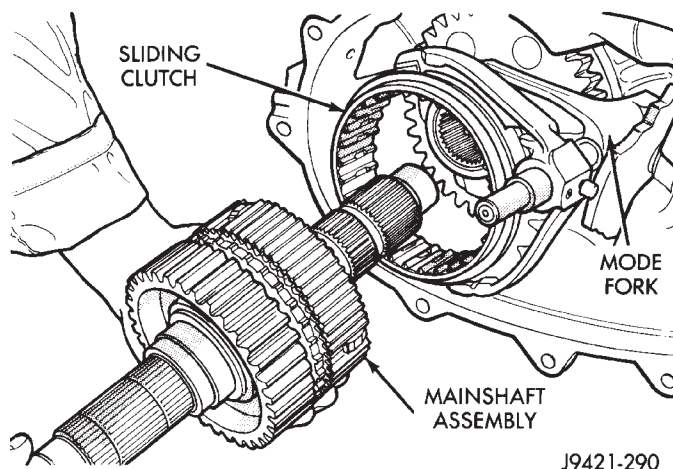

Fig. 26 Mainshaft Assembly Removal
(6) Pull mainshaft assembly out of input gear, sliding clutch and case (Fig. 26).